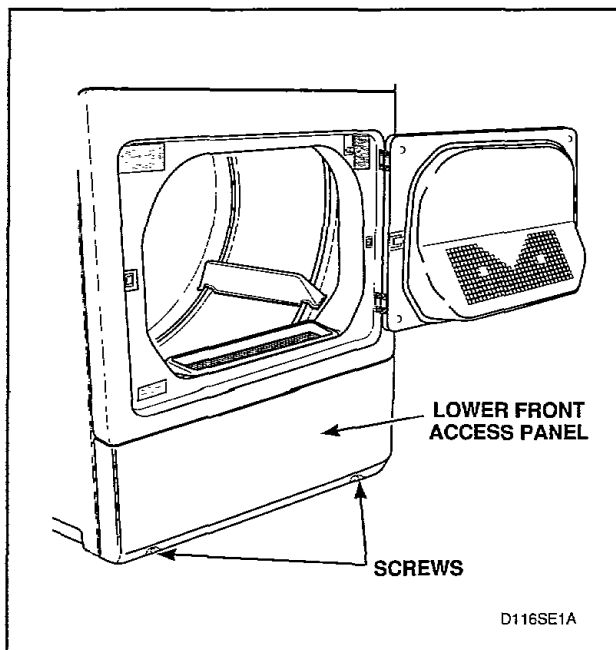

Figure 9
- While supporting the lower access panel, remove two screws from bottom edge of lower access panel, *Figure 9*.
- h. While supporting the lower access panel, remove two screws from bottom edge of lower access panel, *Figure 9*.